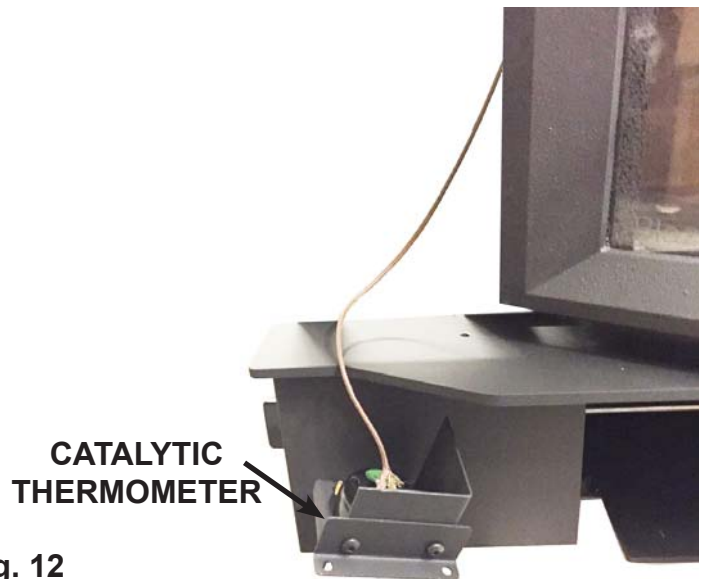

Fig. 12
1. Position catalytic thermometer across ash shelf front.(**Fig. 12**)